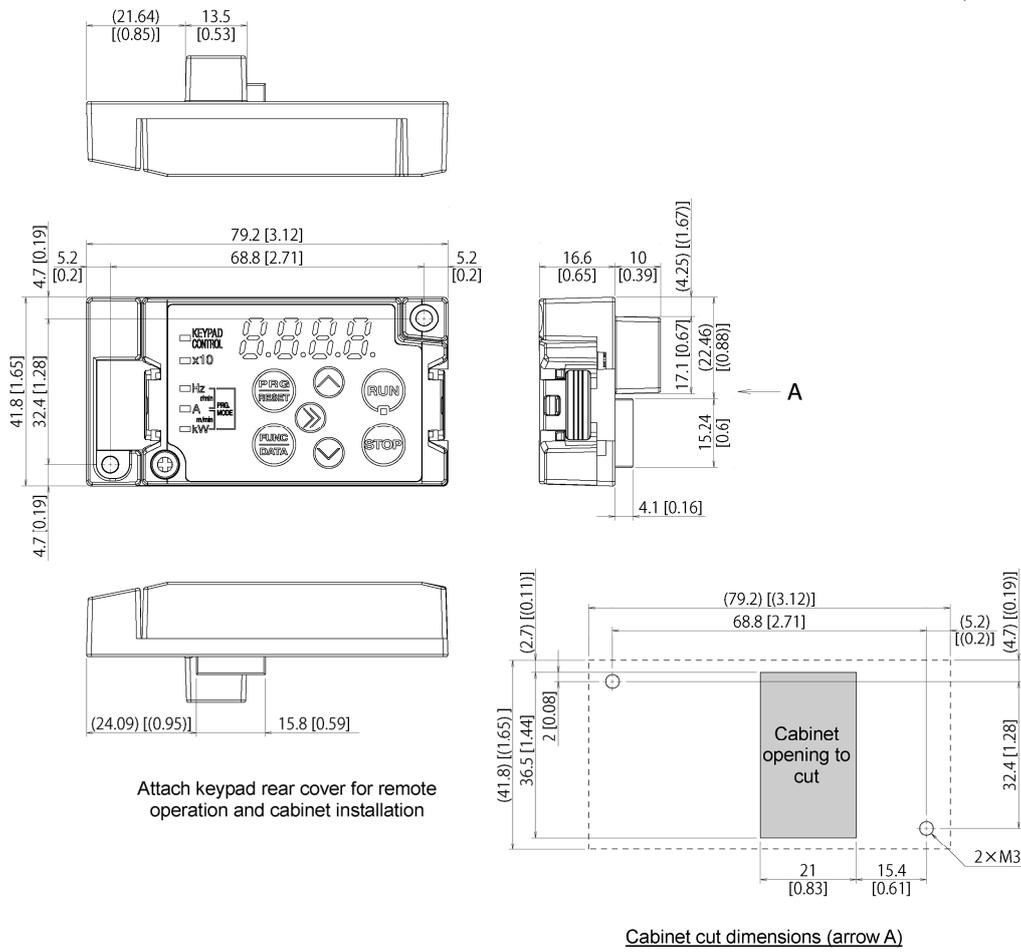

Figure 2.3-6 Attachment Screw Positions and the Dimensions of the Cabinet to Cut
(3) Cut the cabinet to attach the keypad, as shown in figure 2.3-6